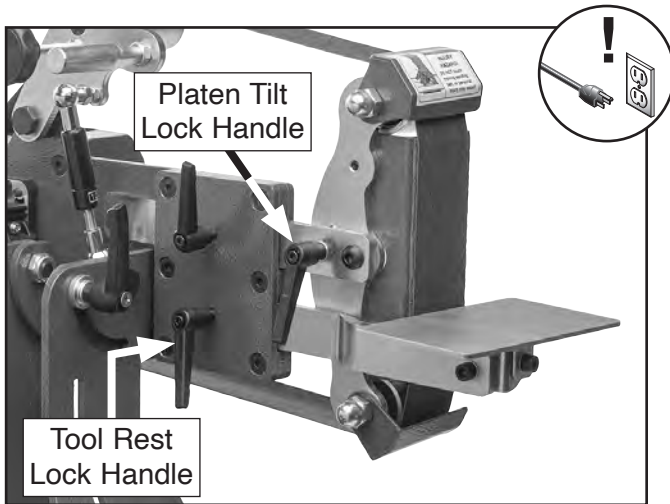

Figure 25. Location of tool rest lock handle and platen tilt lock handle.
2. Loosen tool rest lock handle (see **Figure 25**), so you can move it as needed during next step.
- Loosen platen tilt lock handle (see **Figure 25**), adjust platen tilt as desired, then tighten handle to secure.